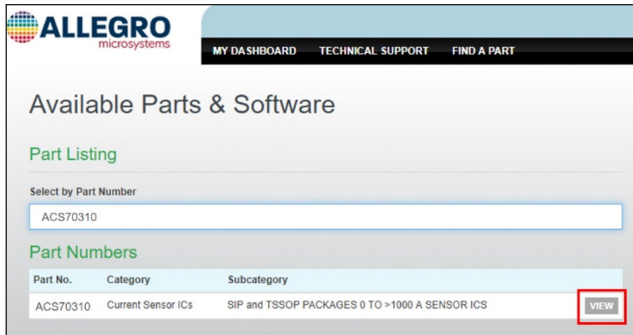

Figure 5: “View” next to “ACS70310” search result
6. Click “View” next to the ACS70310 search result as shown highlighted in Figure 5.